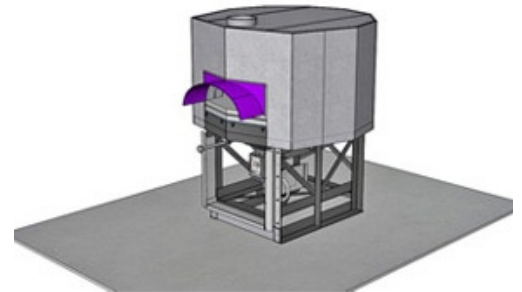

Figure 1.1
**Figure 1.1** Represents a standard **WS-MS-5-RFG-IR** oven. It has shipped with a factory installed Arched Doorway Facade Extension for Flat Wall. Specs for additional sizes are available in our online **Product Catalog** and **CAD Symbols** in our **CAD Library**.